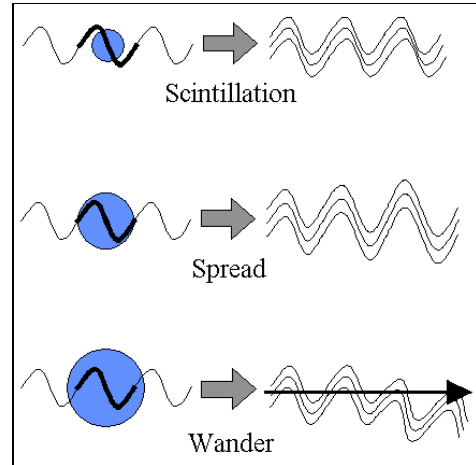

Figure 27 – Laser system sensitivities
2. Refractive effects can seriously degrade beam propagation (figure 27):